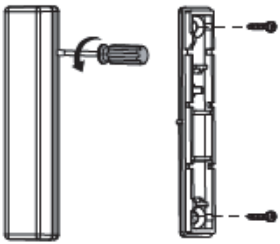

Figure 3
Step 4: Mounting (Fig. 3 -- Fig. 6)